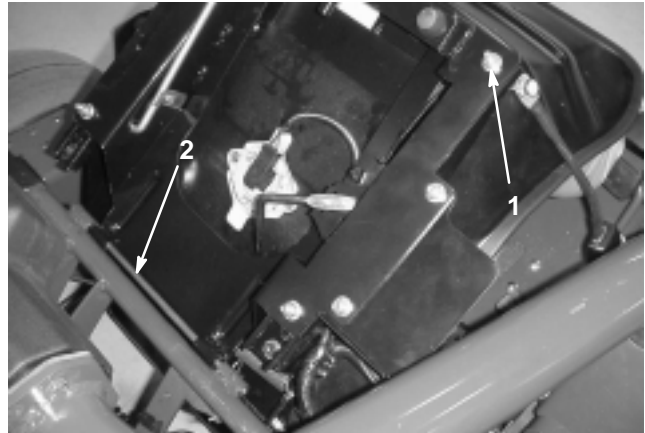

Figure 2
1. Remove the locknut (Fig. 2) and seat bracket (used for shipping) attached to the right rear seat adjuster screw and discard them. Bracket not shown.
2. Remove the cotter pin and seat pivot rod securing the seat (shipping position). Remove the seat (Fig. 2).